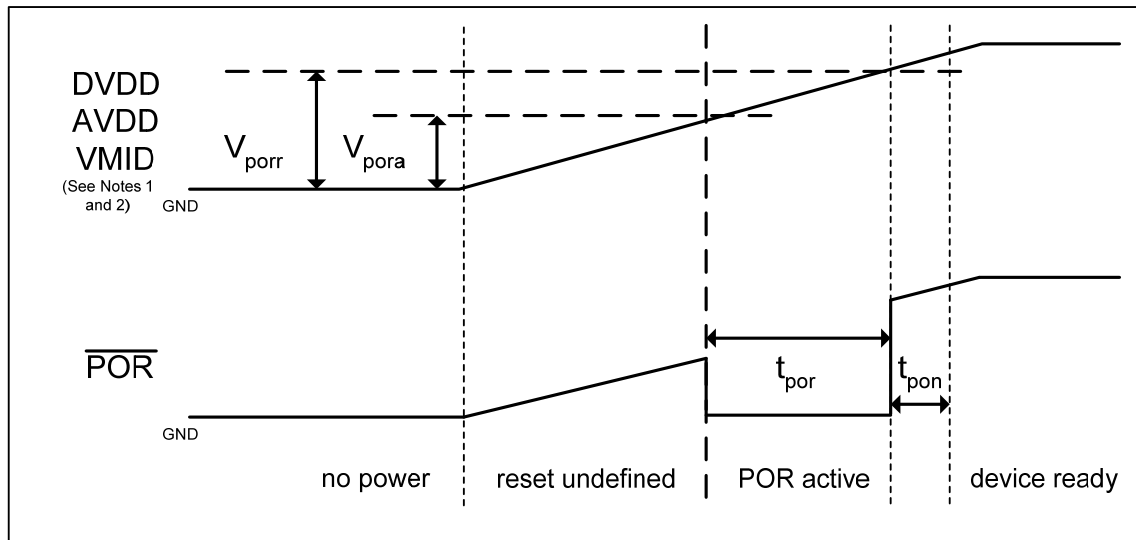

Figure 11 Power Supply Timing Requirements – Power-on
1. POR is activated when DVDD or AVDD or VMID reach their stated V_{pora} level (Figure 11)
2. POR is only released when DVDD and AVDD and VMID have all reached their stated V_{porr} levels (Figure 11).